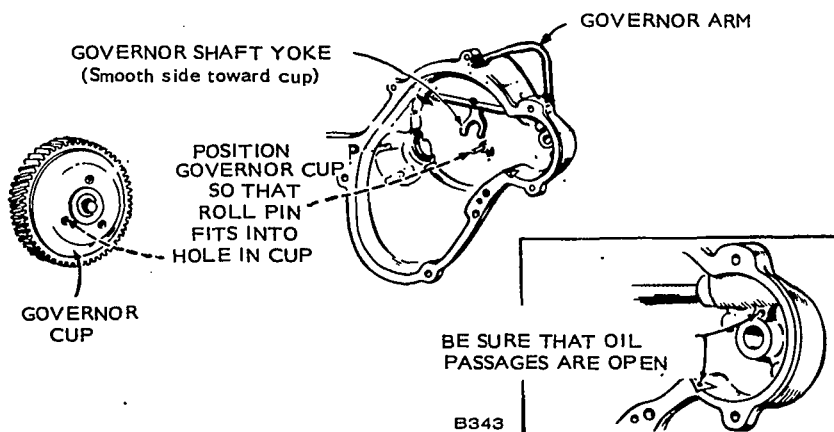

FIGURE 52. GEAR COVER ASSEMBLY
Governor Shaft: The governor shaft is supported by two sets of needle bearings. To remove the shaft, remove the yoke and pull the shaft from the gear cover. If the shaft is binding, clean the bearings. If loose, replace the bearings. To remove the larger bearing, drive both bearing and oil seal out from the outside of the gear cover. Remove the smaller bearing with an Easy-Out or similar tool. Press new bearings and oil seal into place. See Figure 52.
1. Work governor shaft to check for binding and see that the governor shaft end-thrust ball is in place, Figure 52.
3. Turn governor cup so stop pin in gear cover will fit into one of the holes in the cup surface (Figure 52). Measure distance from end of stop pin to mounting face of cover. It should be $25/32$ inch (19.844 mm). If it is not, replace pin. Pin should be positioned with open end facing crankshaft seal.